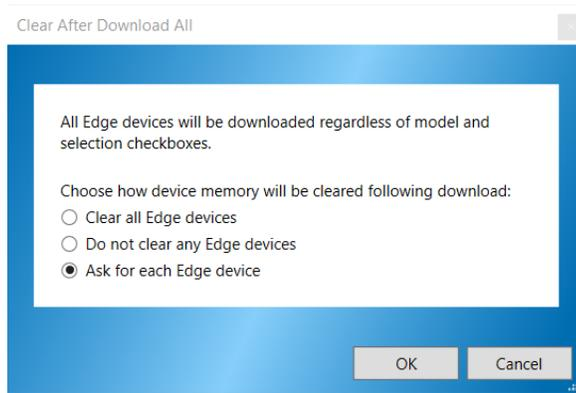

Figure 1-28: Clear After Download All dialog
6. Press the **Download** button (see **5**). DMS will report the sessions loaded and the date of completion with the most recent on top (see **6**). If using **“Selected Edge Devices Only”** mode, a dialog will appear after each device is downloaded asking if you would like to clear the instrument memory (see **7**). If using **“All Edge Devices”** mode, the **Clear After Download All** dialog will appear before downloading begins (Figure 1-28). This dialog gives you three options for how to clear device memory following downloads.